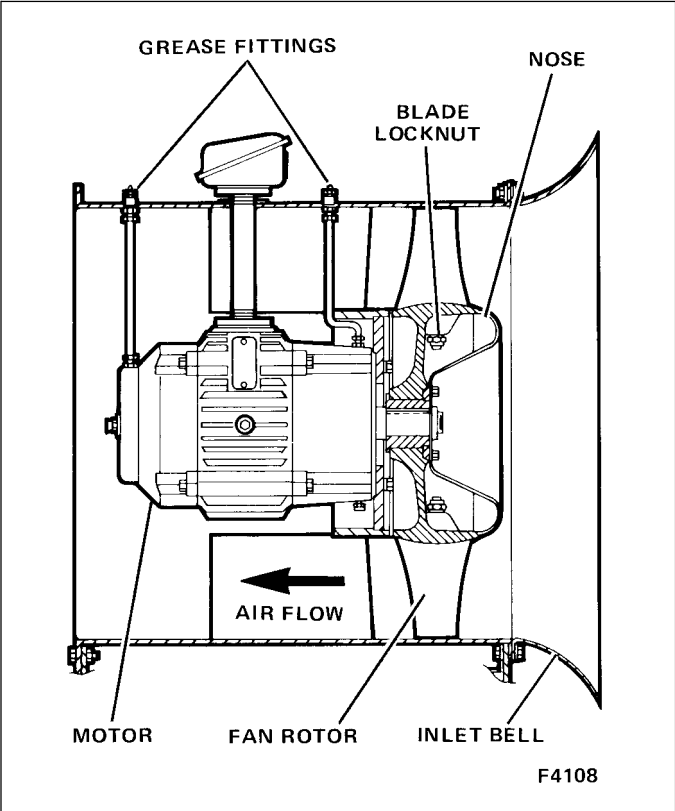

Figure 2-5. Blower Components
The amount of air supplied to the cab is highly dependent upon the pitch setting of the blower fan blades. The blower blades are preadjusted, but the setting should be checked when the filters are serviced. To adjust the blower fan blades, refer to Figures 2-5, 2-6 and 2-7 and proceed as follows:
3. Check the setting of each blade as indicated by the blade position index stamped on the hub next to each individually adjusted blade, (see Figure 2-5 and 2-6). Refer to Figure 2-7 for the correct blade settings.